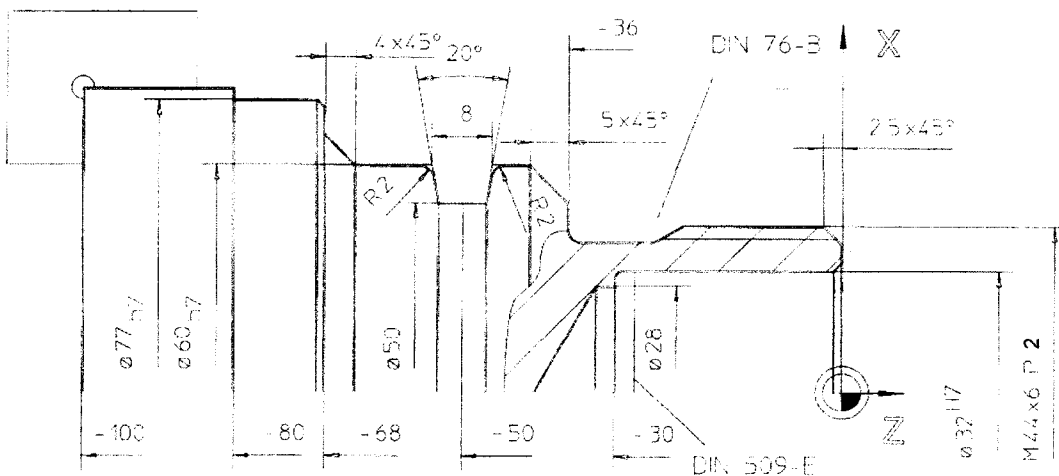

FIGURE 1
- (d) Develop a coding system based from the information given in **Table 1** and **Figure 1**. (5 marks)